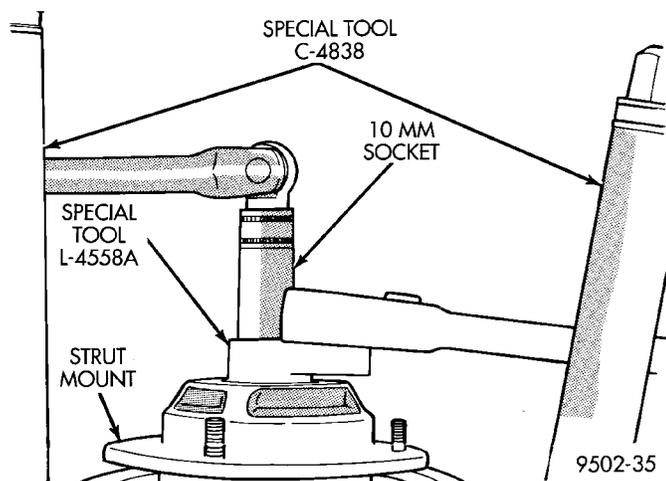

Fig. 61 Strut Shaft Retaining Nut Removal Tools
(4) Install Socket, Strut Nut, Special Tool L-4558A (or L-4558) on the strut shaft retaining nut (Fig. 61). Then install a 10 mm socket on the hex of the strut damper shaft (Fig. 61). While holding strut shaft from turning, remove the strut shaft retaining nut.
(7) Install Socket, Strut Nut, Special Tool L-4558A (or L-4558) on the strut shaft retaining nut (Fig. 61). Then install a 10 mm socket through the center of the socket and on the hex of the strut shaft (Fig. 61). While holding strut shaft from turning, torque strut shaft retaining nut to 75 N·m (55 ft. lbs.).
(8) Equally loosen both Spring Compressors, Special Tool C-4838 until top coil of spring is fully seated against upper spring seat and strut mount. Then relieve all tension from spring compressors and remove spring compressors from strut assembly spring.